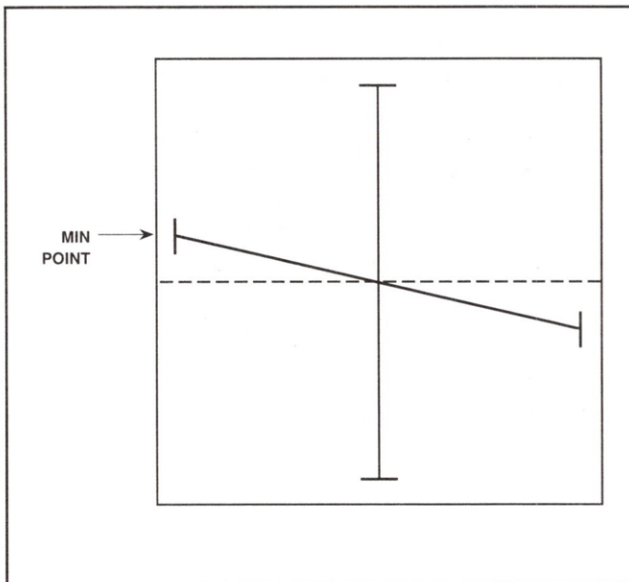

Figure 3
6. Confirm the location of the minimum point by pressing the downward arrow key and moving the line in the MIN direction. If distortion such as that shown in Figure 1 occurs during adjustment, the minimum point is just before distortion appears. (See Figure 3.)